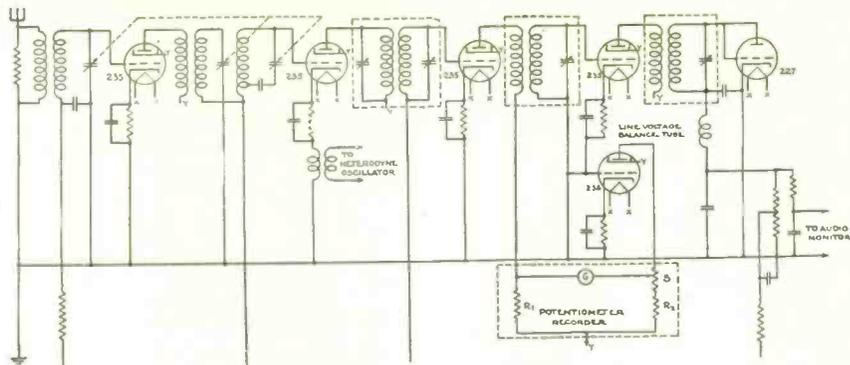

Fig. 2. Circuit of the combined receiver and recorder.
expeditions and now associated with the Radio Laboratory of the Bureau of Standards. The power supply voltage variations were thereby effectively excluded, as the ratio R_p/R_s is independent of line voltage. To obtain this independence of line voltage for this ratio of plate resistances it is not necessary that the tubes exactly match. Five percent variations in the supply voltage did not materially change the sensitivity of the receiving set, and the function as shown in (1) is independent of such variations. Fig. 2 shows the final circuit arrangement of the receiving set and recorder.
The best load impedance for Class A Prime tubes is somewhat difficult to calculate accurately. As in Class B, for a limited grid voltage the output power will be greatest when a plate load is chosen such that the product of plate voltage swing and plate current swing is a maximum. For maximum power with minimum distortion, the load resistance will decrease as the driver power is increased. In other words, with greater driving power, the plate current swing on the output tube can be increased and greater power output will consequently be developed across a smaller resistor. This again is governed by the peak current which the plate supply can deliver. It is also not desirable to use a low load resistance if the plate supply regulation is bad. All these factors are of more or less importance, depending upon the magnitude of values in the particular design. However, a general method of determining load impedance for push-pull tubes can be used where the grids are not driven very far positive. Fig. 2 shows this as applied to the 845 tubes. The published plate characteristic curve must be obtained and an operating voltage E selected. A vertical is erected at $.6E_b$ and the $E_c = E$ line is extended to meet it. A line is then drawn from this point of intersection to our point E_c . The slope of this line multiplied by 4 is the proper plate-to-plate load.
$$\text{as shown in Fig. 2. This gives } \frac{.40 \times 1250}{5} = 100 \text{ watts}$$